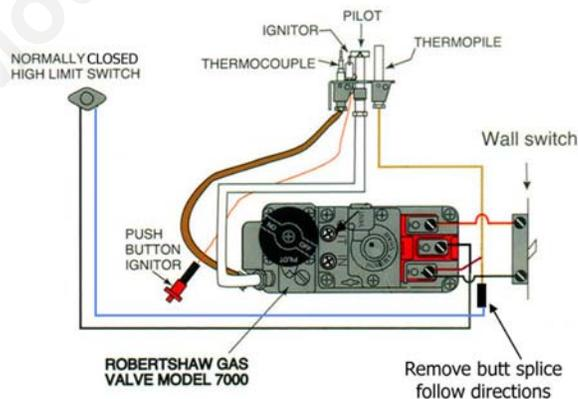

Figure 1- Example of Existing Wiring
- In Fireplace, cut Butt Splice off of wire from Thermopile to Limit Switch and dispose of. (See Figure 1)